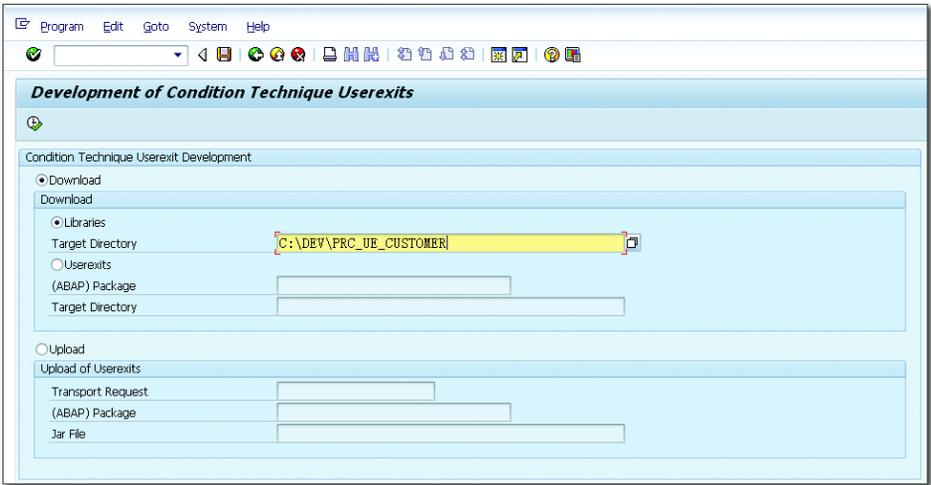

Figure 2.49 Development of Condition Technique User Exits
3. Start your SAP GUI on the same machine, log in to the system, and start Transaction /SAPCND/UE_DEV. Figure 2.49 shows the initial screen of Transaction /SAPCND/UE_DEV wherein you can download the Java routine files from SAP CRM and upload the changes made to the Java routine files.